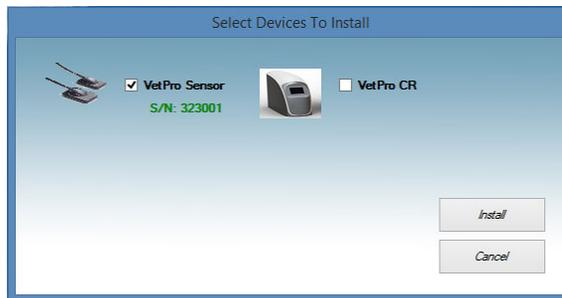

Figure 4: Selecting the device families to be installed
- The screen on Figure 4 will be displayed. Choose “VetPro Sensor” and all other device families that have to be supported by the Imaging Software.